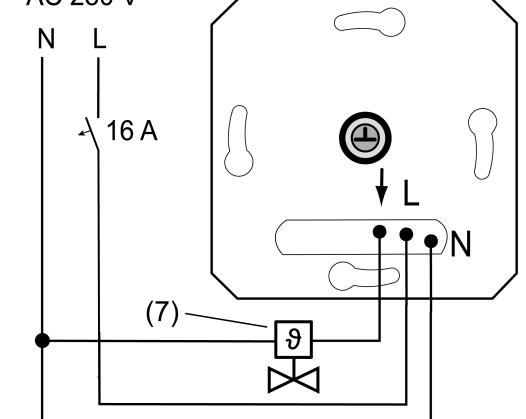
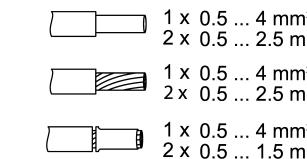

Figure 2: Connection example of the insert
Figure 3: Clampable conductor cross-section
- Connect electrothermal valve drive (7) to insert (1) according to connection diagram (Figure 2). Observe the conductor cross-sections (Figure 3).